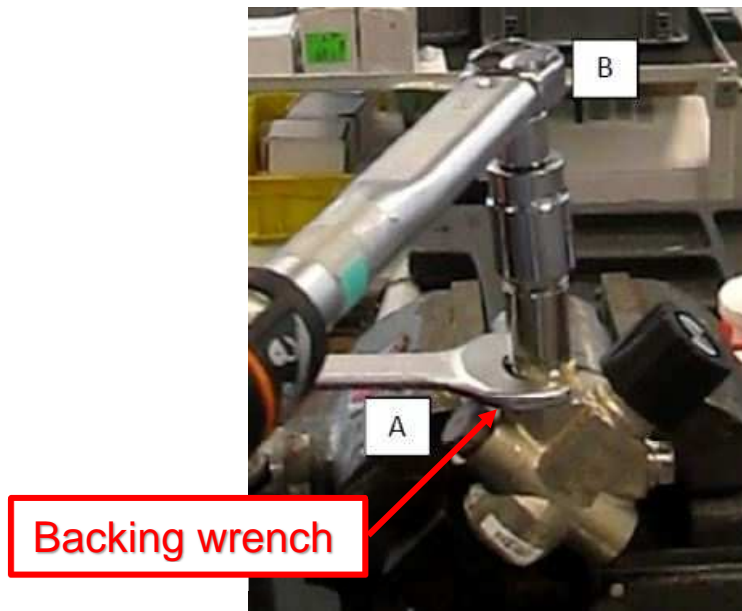

**Figure 8: Torque PRD to 26 FT-LBS**
10. Install the new PRD and torque the top hex (3/4") to 26 FT-LBS. Refer to Fig. 8.